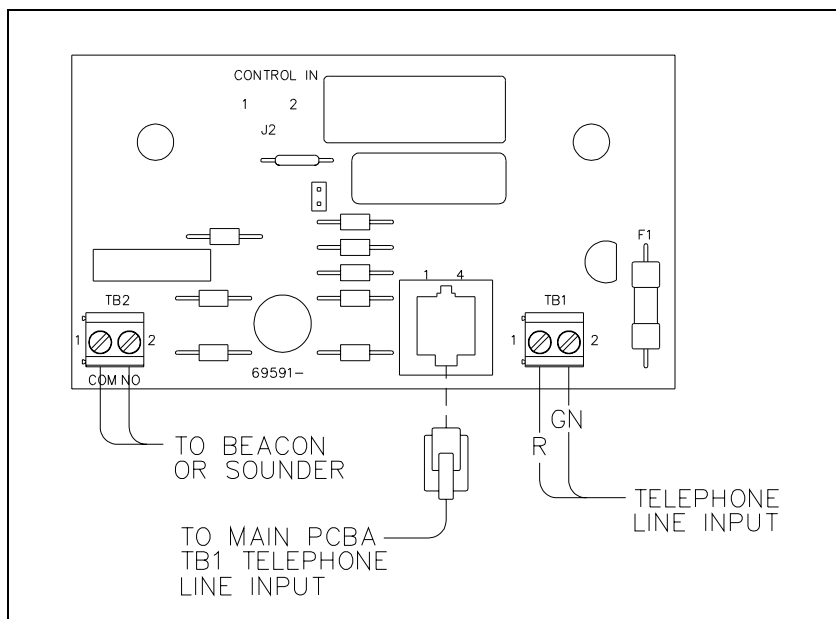
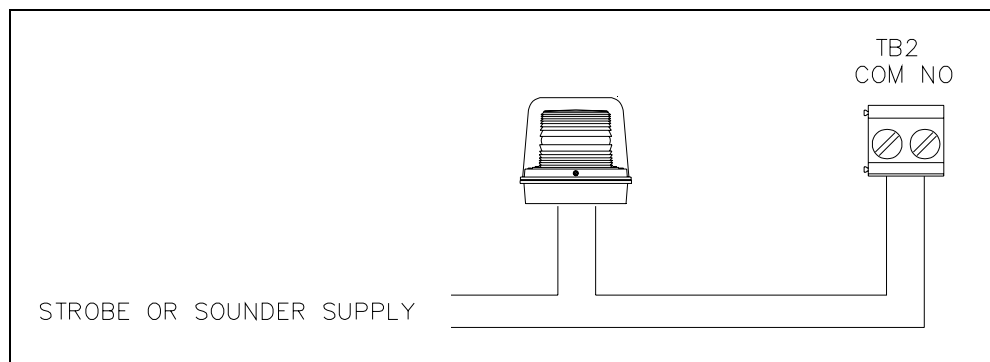

Figure 8.
Figure 9.
3. When a Ring Relay PCBA is present, connect the incoming subscriber line to the TB1 terminal block. See Figure 8 and Figure 9.